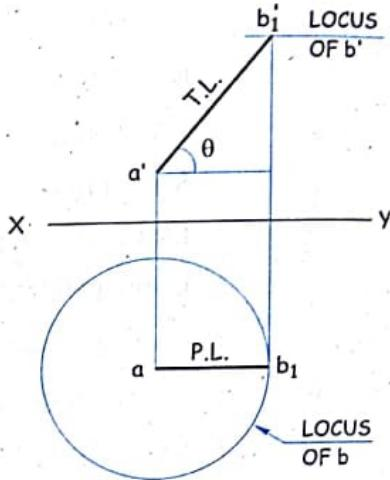

FIG. 8.11
**To Construct an Orthographic Projection of Line  $AB_1$ . Refer figure 8.11.**